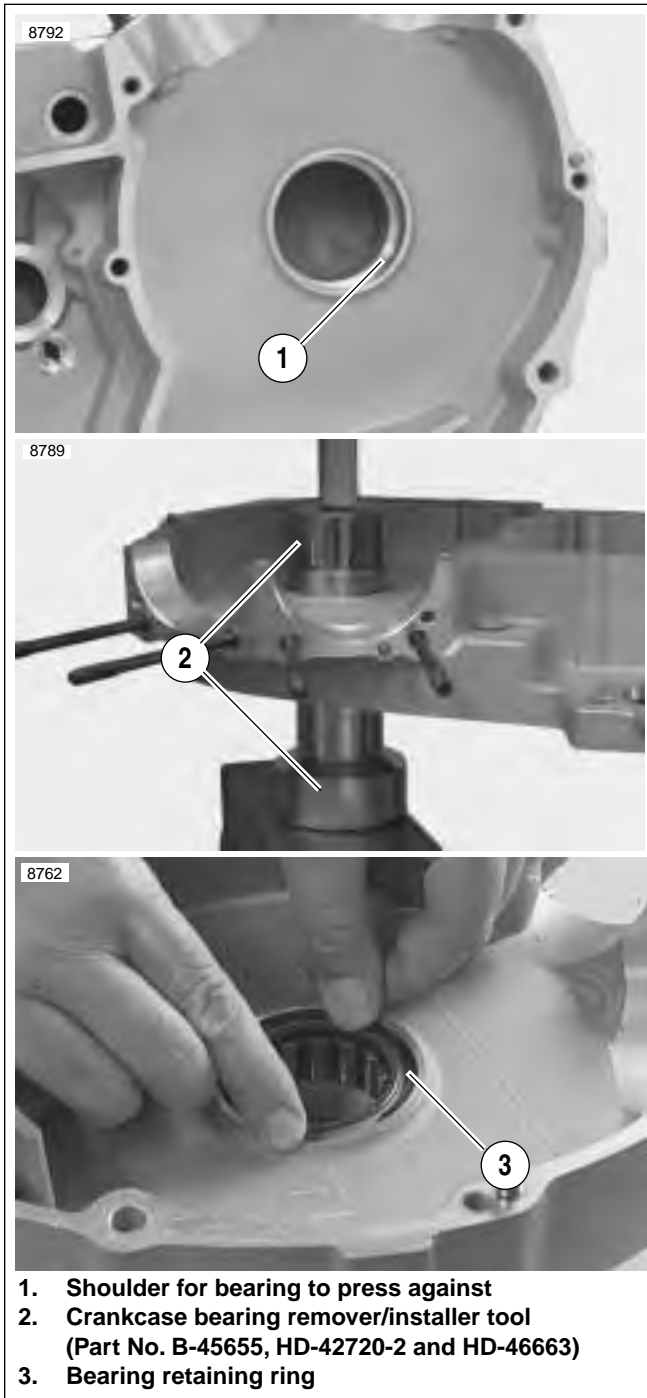

Figure 3-153. Sprocket Shaft Bearing Installation
1. See Figure 3-153. Using CRANKCASE BEARING REMOVER/INSTALLER (Part No. B-45655, HD-42720-2 and HD-46663), install sprocket shaft bearing into left crankcase half from the inside.